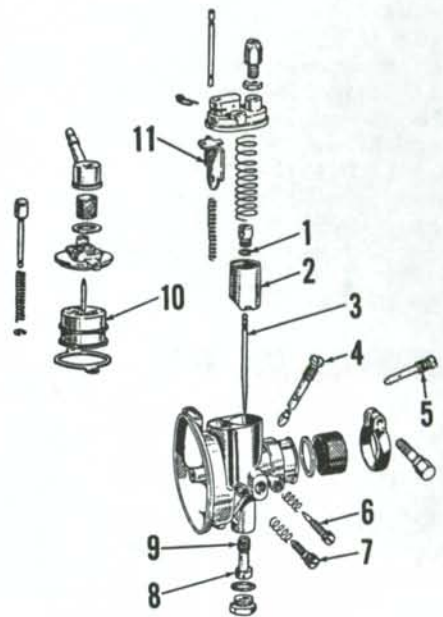

Fig. BE1-1—Exploded view of Del'Orto carburetor. Idle mixture is adjusted at needle (6).
**CARBURETOR.** Del'Orto ME 18 BS carburetor is shown in Fig. BE1-1. Idle speed is adjusted at screw (7). Idle mixture needle (6) initial setting is 1 turn open. Turning the needle counter-clockwise leans the mixture. Clip (1) should be in center (2nd notch of needle (3). Main jet (8) standard size is 76.